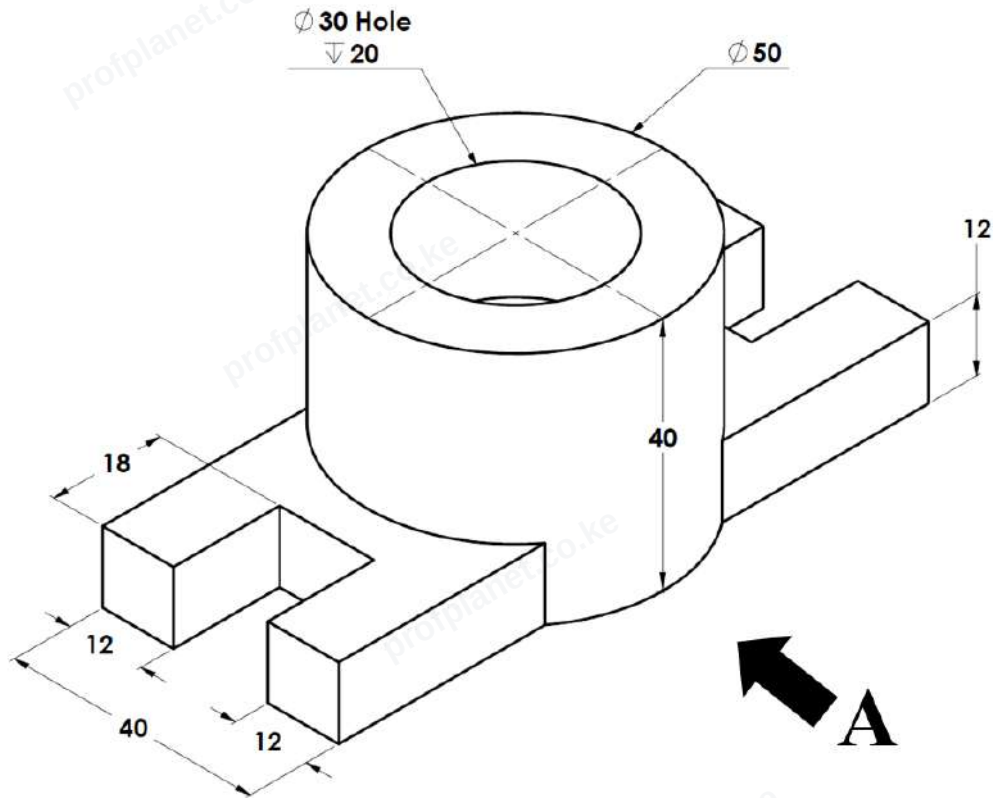

Figure 3.
14. Figure 3 shows a cylindrical block. Using a CAD software program, draw the following views in first angle orthographic projection: